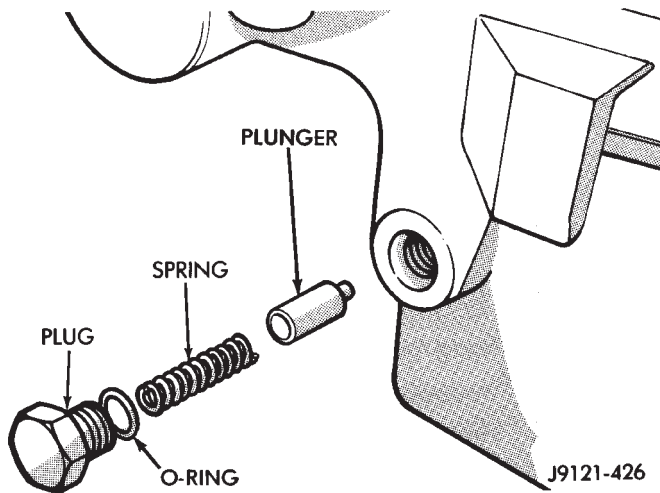

Fig. 49 Installing Detent Plunger, Spring And Plug
(3) Install range lever and lever attaching nut on shift sector. Tighten attaching nut to 30 N·m (22 ft. lbs.) torque.
(4) Install detent plunger, spring and plug (Fig. 49). Tighten plug to 20 N·m (15 ft. lbs.) torque.